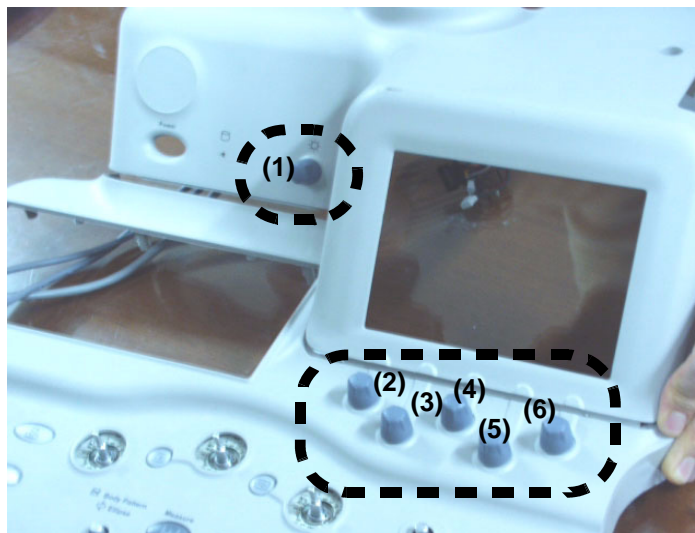

Figure 8-45 Pulling out LCD encoder knobs
- 1.) Pull out five LCD encoder knobs (2-6) and one LCD Brightness Encoder from the front side of the keyboard. Refer to Figure 8-45.